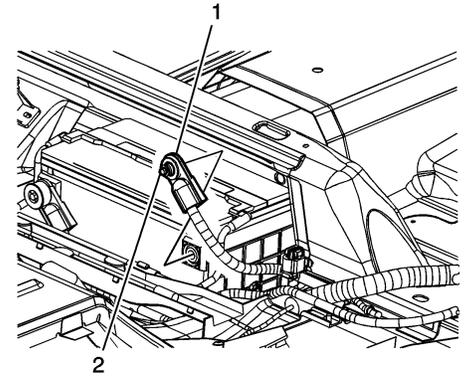

Fig. 2 Battery ground cable disconnection
5. Loosen battery ground cable bolt (2), Fig. 2.
6. Connect battery ground cable (1) to battery, Fig. 2. Torque battery cable bolt to 13 ft. lbs.